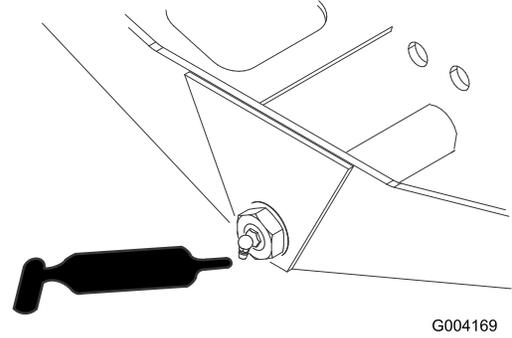

Figure 69
- Axle-steering pivot (1) (Figure 69)